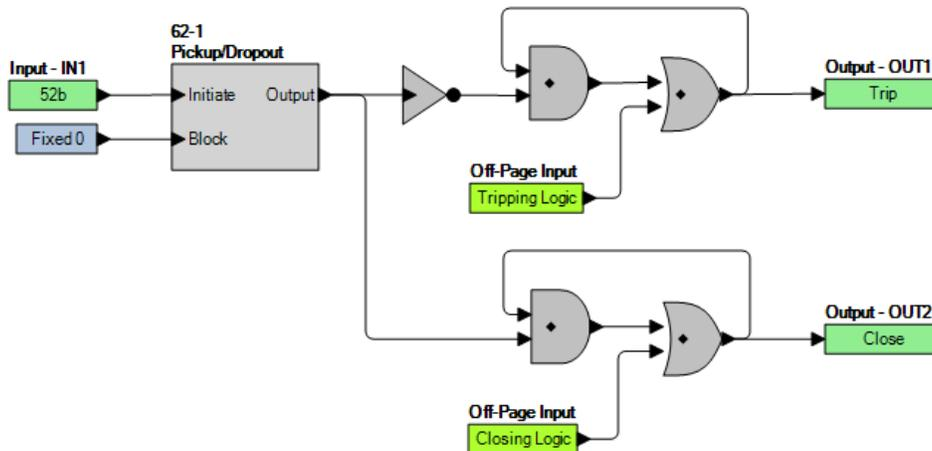

Figure 10-30. Contact Output Seal-In Logic Diagram
To prevent the output relay contacts from opening prematurely, a hold timer (4 to 2,000 ms) can be set with *BESTCOMSPPlus*. If desired, seal-in logic with feedback from the breaker position logic can provide this function by modifying the logic for the tripping output. To do this, use one of the general purpose timers (62) and set it for Pickup/Dropout mode. Set the timer logic so that it is initiated by the breaker position input and set the timer for 2 cycles pickup and 2 cycles dropout. The same can be done for the closing output. Figure 10-30 provides a seal-in logic diagram.